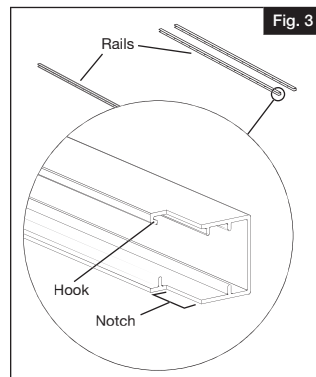

Fig. 3
- If you are left with a space less than a full panel, the panel can be cut down to fit the space by using a hacksaw. "Notch" the cut ends of the horizontal rails so they will sit inside of post (Fig. 3).
Place top and bottom rails on a smooth, flat and clean surface. Position the rails so that the "J" hook inside the rails is on top, with the "J" facing down (Fig. 3).
- Make sure to properly position the "J" hooks as shown (Fig. 3) otherwise the pickets will not lock in place, and panel will not be secure.